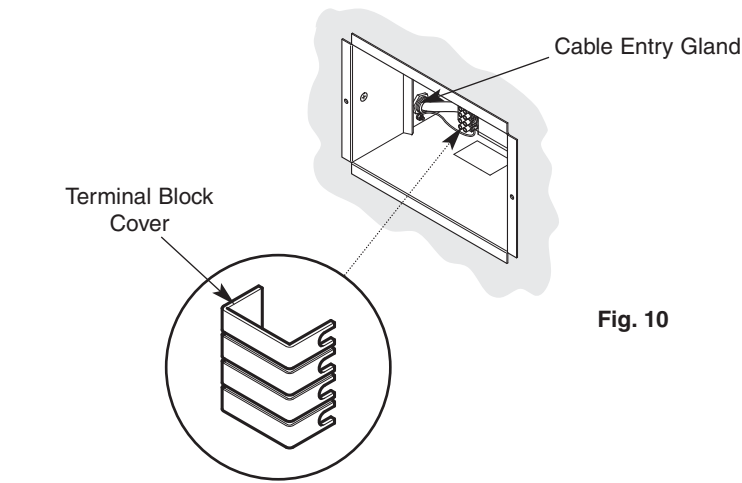

Fig. 10
4. Remove the terminal block cover (Fig. 10) and connect incoming wires to the appropriate terminals, see relevant wiring diagram (for HR100WH see page 11).
5. Replace the terminal block cover and tighten the cable gland (Fig. 10).